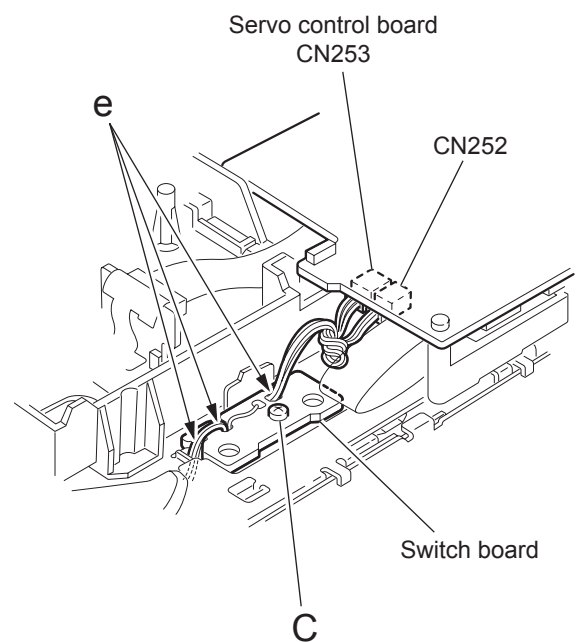

Fig.9
3.2.3 Removing the switch board (See Fig.9)